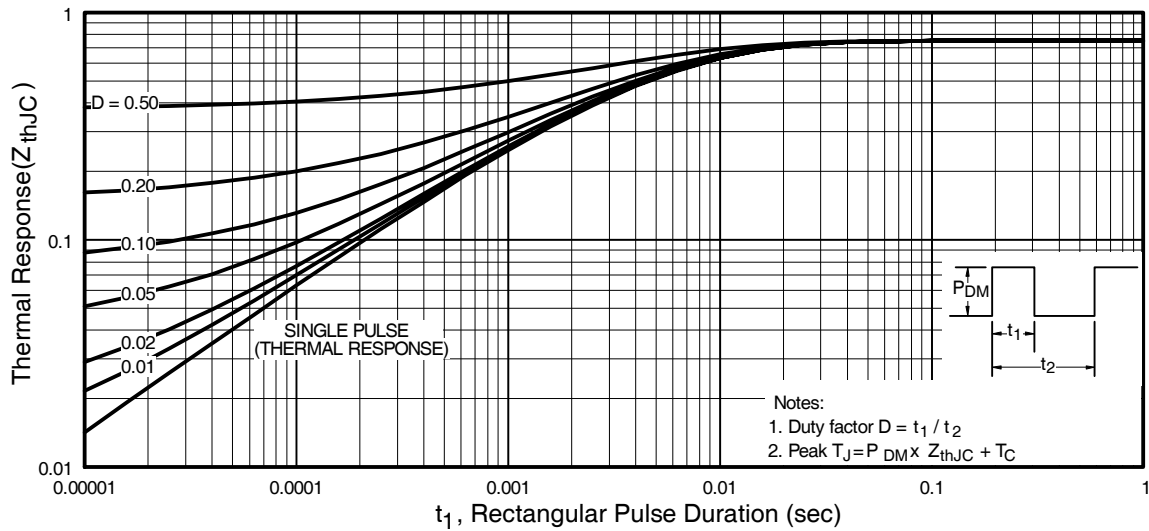

Fig 11. Maximum Effective Transient Thermal Impedance, Junction-to-Case
- ① Repetitive rating; pulse width limited by max. junction temperature. (See fig. 11)
- ② Starting $T_J = 25^\circ\text{C}, L = 138\mu H$